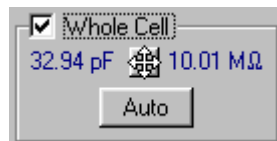

Figure 2.18
4. We now wish to cancel the slow component of the transient, because (a) it may, like the fast transient, saturate the headstage amplifier (see Tutorial 3), and (b) this cancellation is necessary for series resistance compensation (see step 8, this Tutorial). Check the Whole Cell checkbox and use the toggle button to adjust the capacitance (pF) and series resistance ($M\Omega$) parameters. (See Figure 2.18 below.) It will be easier to do this while holding down the Shift key to magnify the effect of mouse movement.